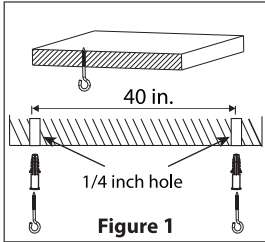

Figure 1
1. Install provided screw-hooks directly onto ceiling. Spacing between screws should be 40 inches (See Figure A). For concrete ceilings/drywalls, wall anchors are required. Drill two holes (use a 1/4 inch drill bit) for provided wall anchors then use provided screw hooks (See Figure 1).